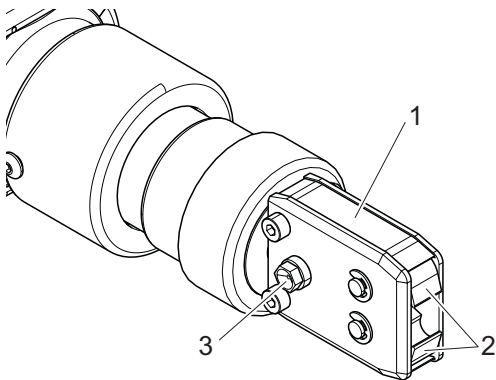

Fig. 24: Lubricating the pincer head
2. Grease the pincer head (Fig. 24/1) via the grease nipple (Fig. 24/3) using a grease gun with special lubricant RENOLIT LX 2.
3. Check pincer jaws (Fig. 24/2) for wear and breaks at the clamping points, exchange if necessary (see tool catalog for part no.).